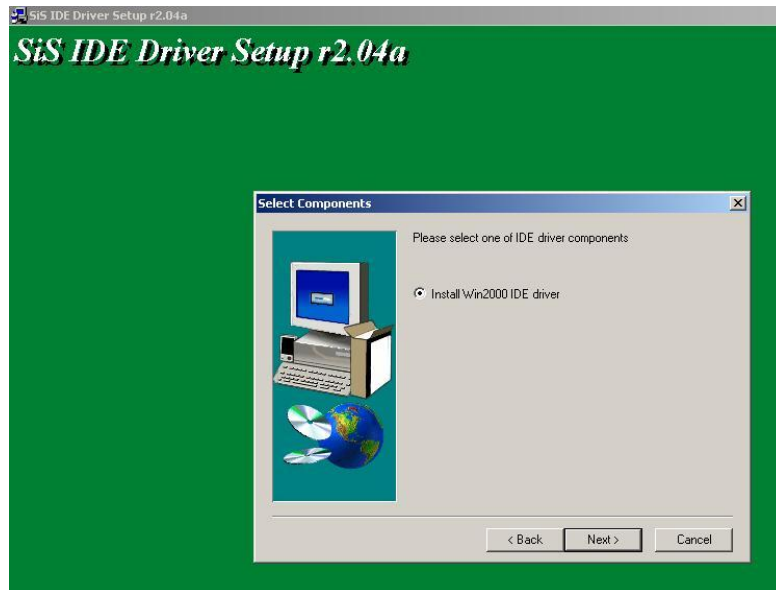

Figure 6-19: Chipset Driver Readme File Information
Step 4: The **Select Components** screen appears (**Figure 6-19**). Select the appropriate component and click **NEXT** to continue the installation.